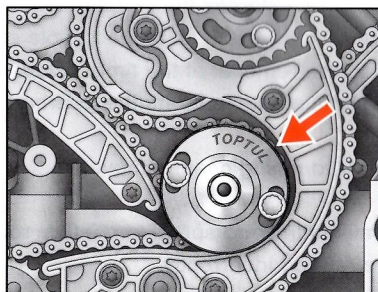

Fig.33
- (2) Install Crankshaft Adjuster (Part No.H) to the crankshaft and secure in place using bolts. (Fig.33)